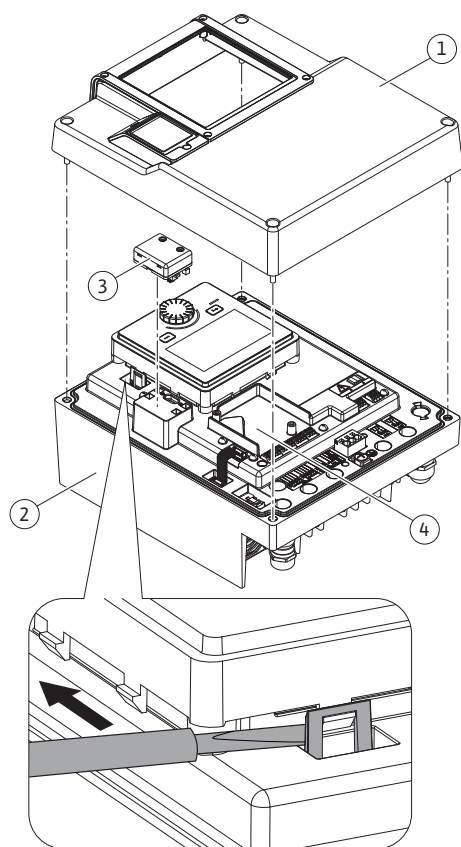
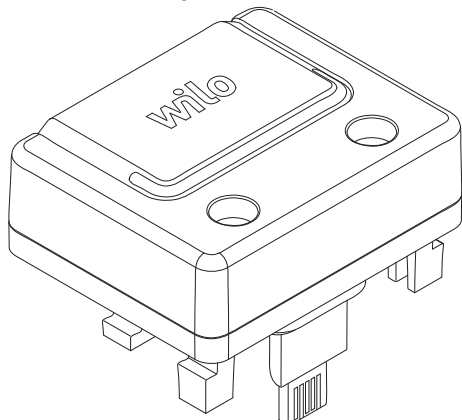

Fig. 25: Electronic module
Fig. 26: Wilo-Smart Connect Module BT
1. Carefully open the snap-in hooks (Fig. 25) with a tool (e.g. screwdriver).
The Bluetooth interface Wilo-Smart Connect Module BT (Fig. 25, Item 3, and Fig. 26) is used to connect to mobile end devices such as smartphones and tablets. The Wilo-Smart Connect feature is in the Wilo-Assistant app. Using the Wilo-Smart Connect feature, you can operate and adjust the pump and read out pump data. For settings, see “Commissioning” [► 162] section.
1. Loosen the four screws of the upper part of the electronic module (Fig. 25, Item 1; Fig. 1, Item 2).
3. Insert the Wilo-Smart Connect Module BT into the designated interface Wilo-Connectivity Interface. See Fig. 25, Item 3.
CIF modules (accessories) are used for communication between pumps and building management systems. CIF modules are plugged into the electronic module (Fig. 25, Item 4)